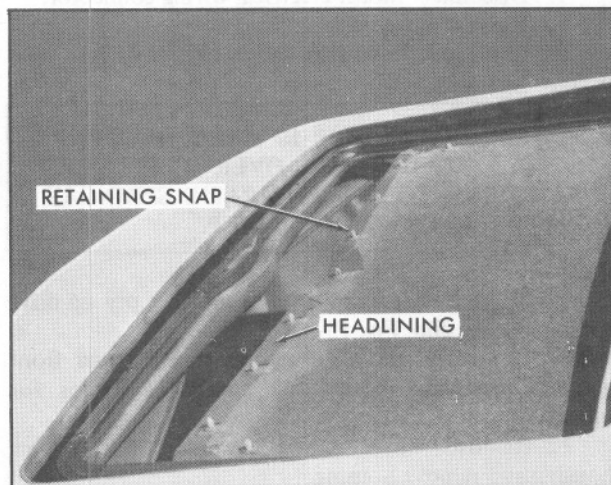

Fig. 15-23 Headlining Snaps
4. Position headlining snaps to holes in panel and tap into place with heel of hand. Fig. 15-23.